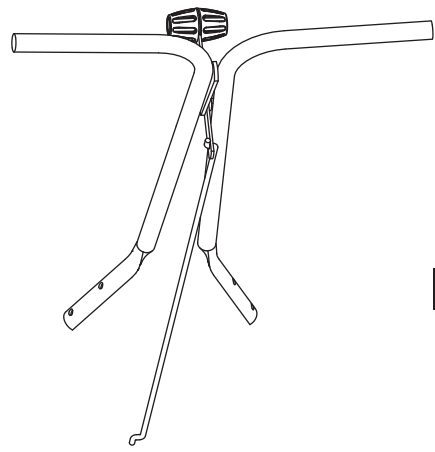

Figure 3
5. Install linkage to lever, Figure 3.